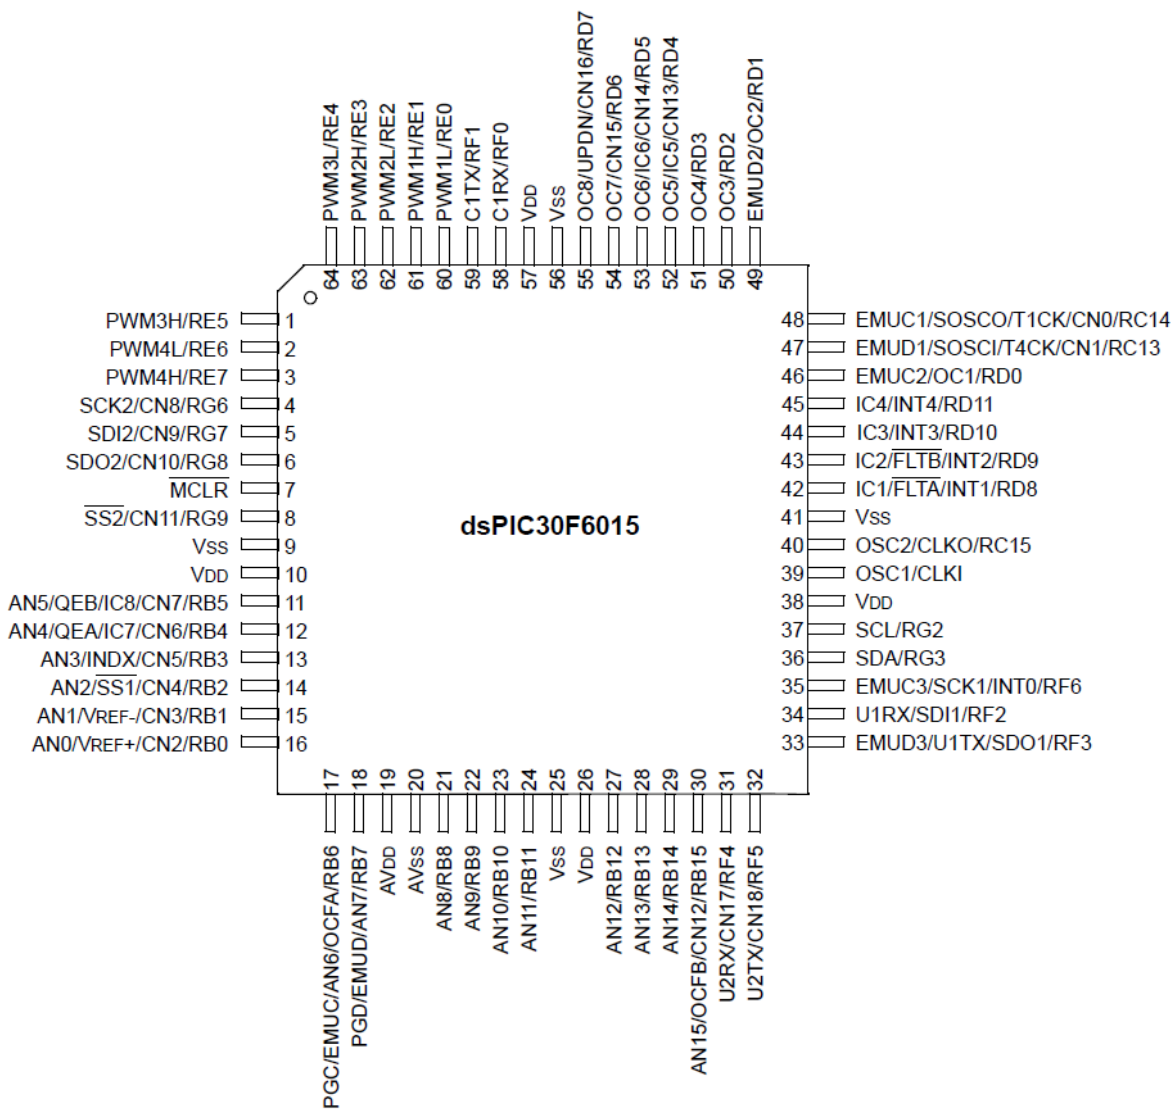

Figure 1. dsPIC30F6015 64-PIN pinout.
**Overview:** In this lab we will model a pendulum using frequency response (Bode plot) methods, plus some intuition about the form of the transfer function. We will be using the dsPIC30F6015 again, and this time we will be using a servo motor. For a servo motor we tell the motor where to go (what angular position) and it moves there on its own (it has an internal PID controller). We can also tell the motor how fast to move. Most of the initial code will be given to you (see the class website), and you will have to modify the code as you go on. The dsPIC30F6015 has been mounted on a carrier board that allows us to communicate with a terminal (your laptop) via a USB cable. In what follows you will need to make reference to the pin out of the dsPIC30F6015 (shown in Figure 1) and the corresponding pins on the carrier (shown in Figure 2)